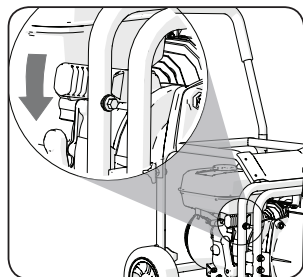

Fig 10
- Firmly push the engine and accessory together until the 'click' of docking is heard. The Uni-coupling release lever (**Fig. 10**) will return to its neutral position.
- Operate the 'Uni-coupling' release lever with one hand (**Fig. 10**) whilst gently easing the accessory outwards releasing it from the coupling with the other hand.